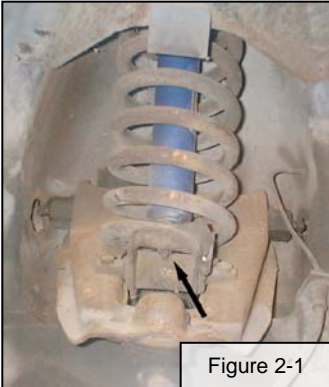

Figure 2-1
3. Unbolt lower shock mount from spring perch (Figure 2-1, *OEM control arm shown*).